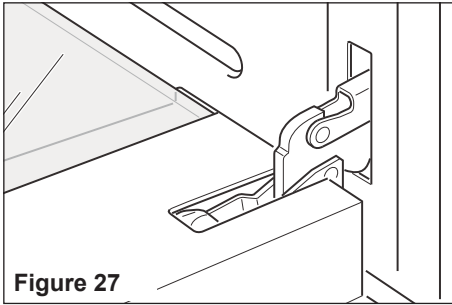

Figure 27
- Open the door to the full extent (fig. 27).
- Open the lever "A" completely on the left and right hinges (fig. 27).
- Gently close the door until left and right hinge levers "A" are hooked to part "B" of the door (figs. 27, 28).